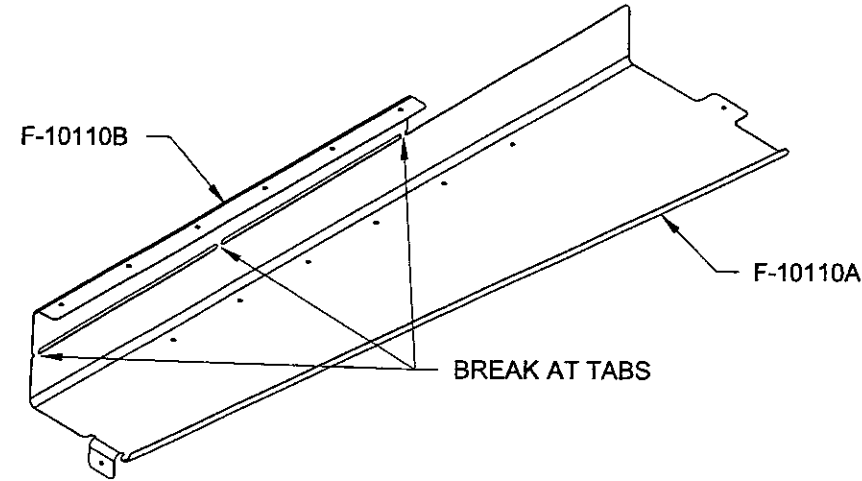

FIGURE 1: SEPARATING WIRE COVER PARTS
Step 1: Separate the F-10110A Wire Cover and the F-10110B Clip as shown in Figure 1 then deburr.